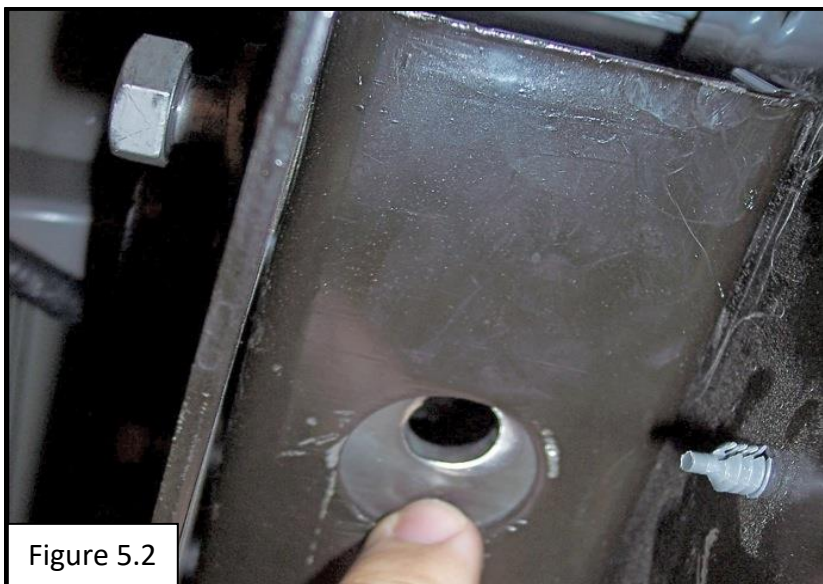

Figure 5.2
- Carefully remove the screw driver/socket wrench, and align the hole in the Center Hole plate washer with Hole #4. See Figure 5.2